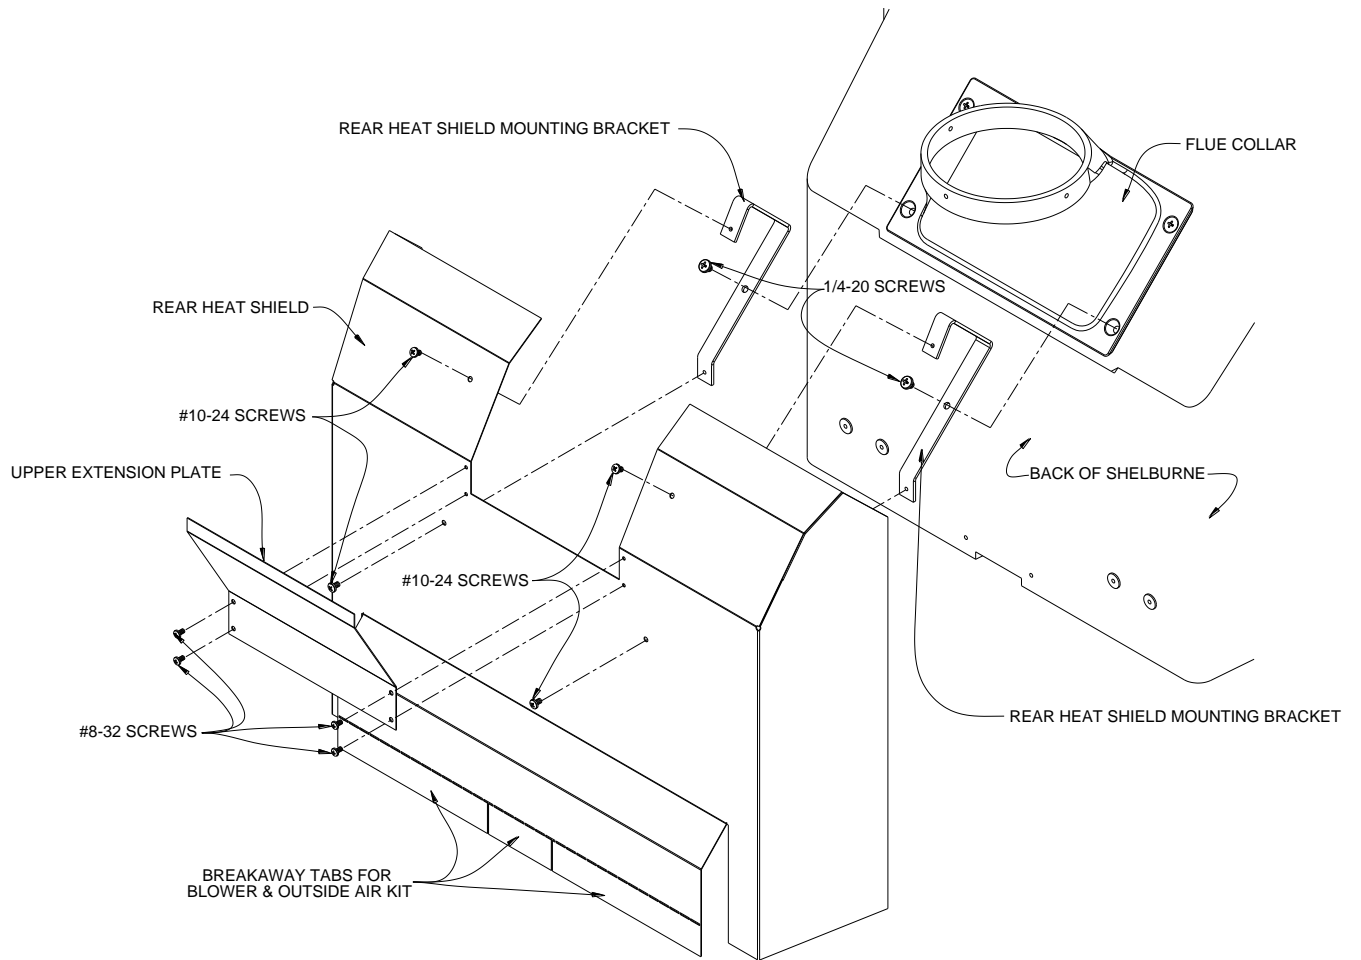

Figure 1
BEFORE YOU BEGIN: Work on a cool stove. You will need to access the rear of the unit. Identify the assembly pieces listed above before you begin. If your stove is equipped with the optional blower (90-57000) you will need to remove the bottom extension of the heat shield before installing the shield. If your stove is equipped with the optional outside air kit (93-53700) and you are using the rear exit location you will need to remove the center portion of the bottom extension. To do this, bend the portion of sheet metal below the perforation up. Work the sheet metal back and forth until it breaks free from the heat shield. If you are not using the blower or the outside air kit, leave the shield intact. (Refer to figure 1)
- 1) If you are installing the stove in a top exit configuration, you will need to first attach the upper extension plate to the rear heat shield using the four #8-32 screws provided with the kit. Align the holes in the extension plate with the holes in the rear heat shield so that the extension plate is extending up, behind the stove pipe. (Refer to figure 1) If you are installing the stove in a rear exit configuration, do not install the extension plate.
- 2) To install the heat shield brackets, first locate the two lower flue collar mounting screws. Remove the two lower screws. Orient the brackets as shown in figure 1 and fasten the bracket and the flue collar to the stove using the two 1/4-20 screws provided with the kit. Ensure the brackets are positioned vertically and tighten the screws securely. (Refer to figure 1)
- 3) Align the four holes on the heat shield with the threaded holes in the brackets and install the four #10-24 screws to hold the heat shield in place. (Refer to figure 1) The installation is now complete.